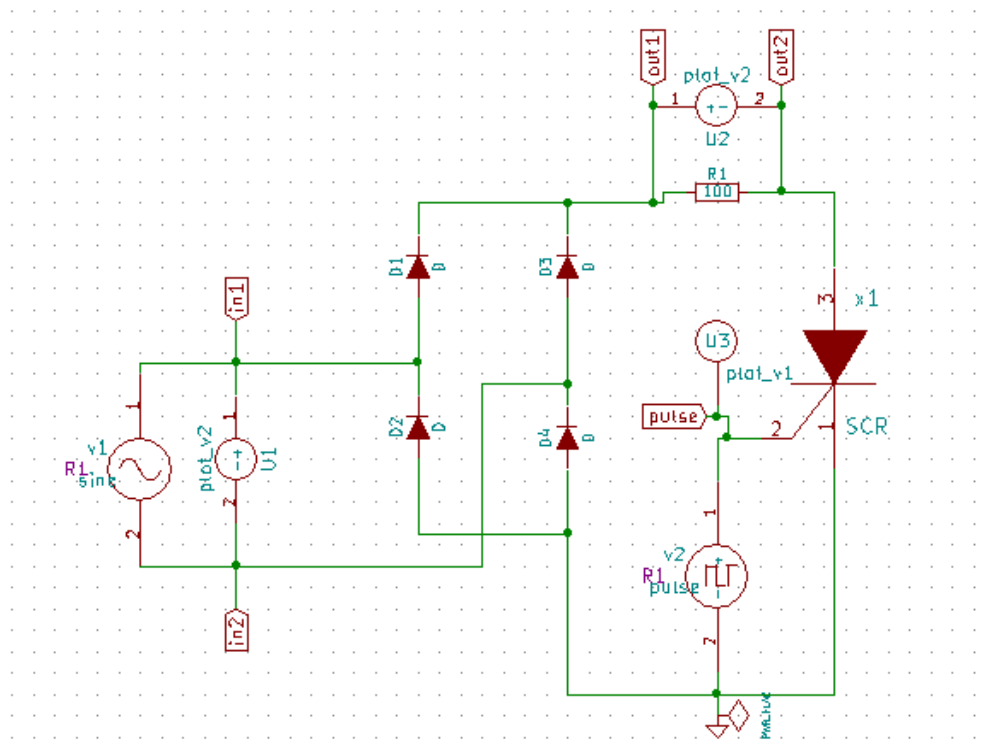

Figure 12.26: Schematic of Full Wave Rectifier using SCR
- **Creating Schematic:** To create the schematic, click the very first icon of the left toolbar as shown in the Fig. 12.2. This will open KiCad Eeschema. After the KiCad window is opened, to create a schematic we need to place the required components. Fig. 12.3 shows the icon on the right toolbar which opens the component library. After all the required components of the Full Wave Rectifier using SCR circuit are placed, wiring is done using the Place Wire option as shown in the Fig. 12.4. Next step is ERC (Electric Rules Check). Fig. 12.5 shows the icon for ERC. The Fig. 12.26 shows the complete Rectifier circuit using SCR after removing the errors.